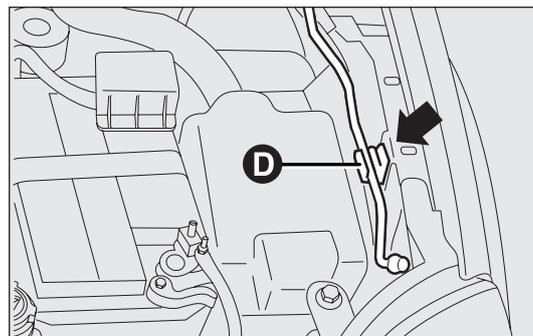
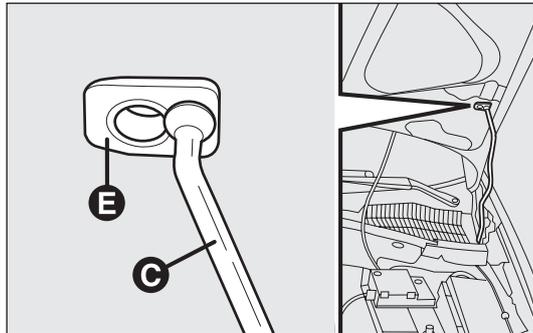

fig. 102
fig. 103
- lift the bonnet and, at the same time, release the bonnet support rod from its locking device D-fig. 102; then insert the end of the bonnet support rod C-fig. 103 into the hole E.
- ❑ hold the bonnet up with one hand and with the other remove the rod C-fig. 103 from the hole E and fit it back into its catch D-fig. 102;